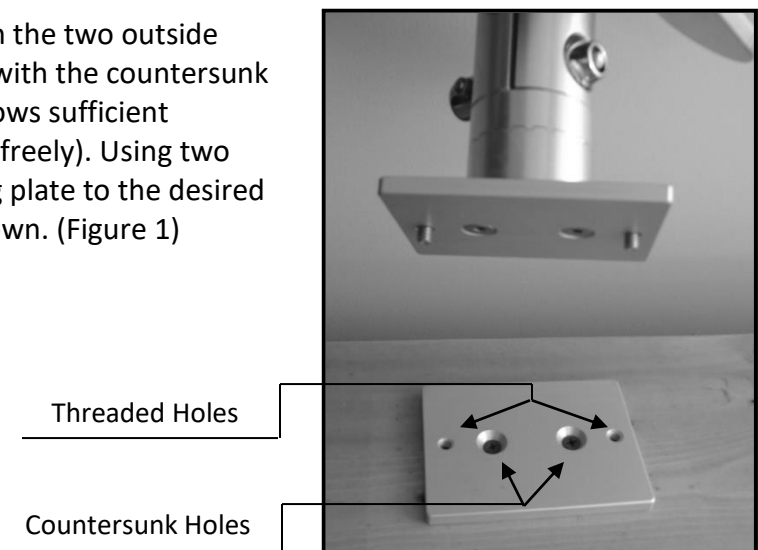

Figure 1
Step 1: Place the Threaded Hole Plate with the two outside threaded holes onto the desired location with the countersunk holes facing up (choose a location that allows sufficient clearance for the completed unit to move freely). Using two screws (not included) fasten the mounting plate to the desired location into the countersunk holes as shown. (Figure 1)
Step 2: Place the two thumbscrews (provided) into the holes on the Thru Mounting Plate. Set the unit onto the Threaded Mounting Plate and attach the two plates. (Figure 1)